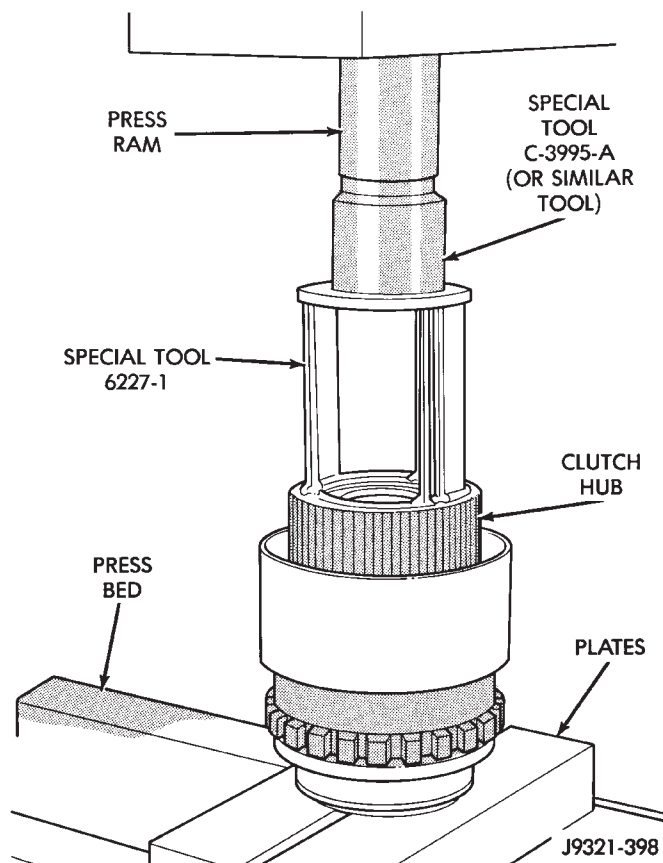

Fig. 197 Geartrain Mounted In Shop Press
(1) Mount geartrain assembly in shop press (Fig. 197).
(2) Position Compressor Tool 6227-1 on clutch hub (Fig. 197). Support output shaft flange with steel press plates as shown and center assembly under press ram.
(3) Apply press pressure slowly. Compress hub and spring far enough to expose clutch hub retaining ring and relieve spring pressure on clutch pack snap ring (Fig. 197).